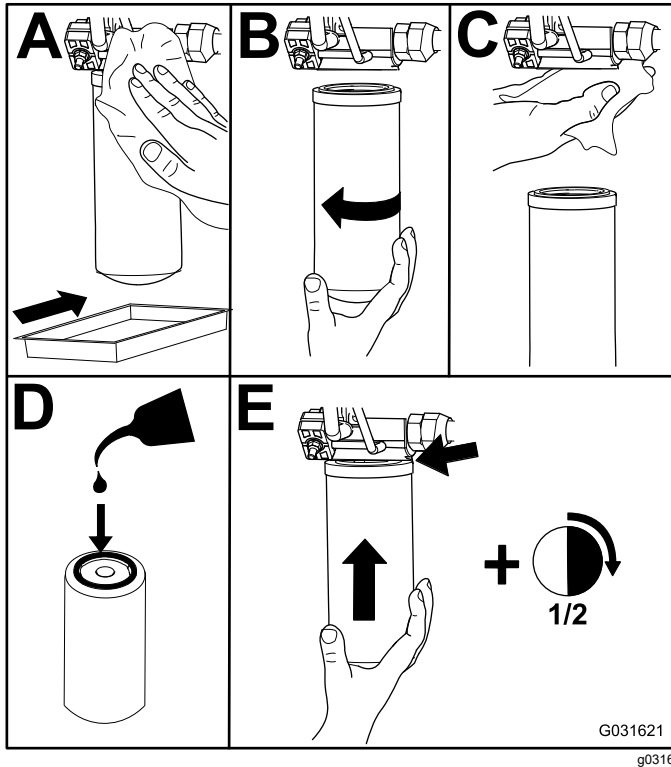

Figure 81
2. Replace the charge hydraulic filter at the hydraulic lift compartment as shown in Figure 81.
4. Replace the return filter at the right side of the machine (Figure 81).